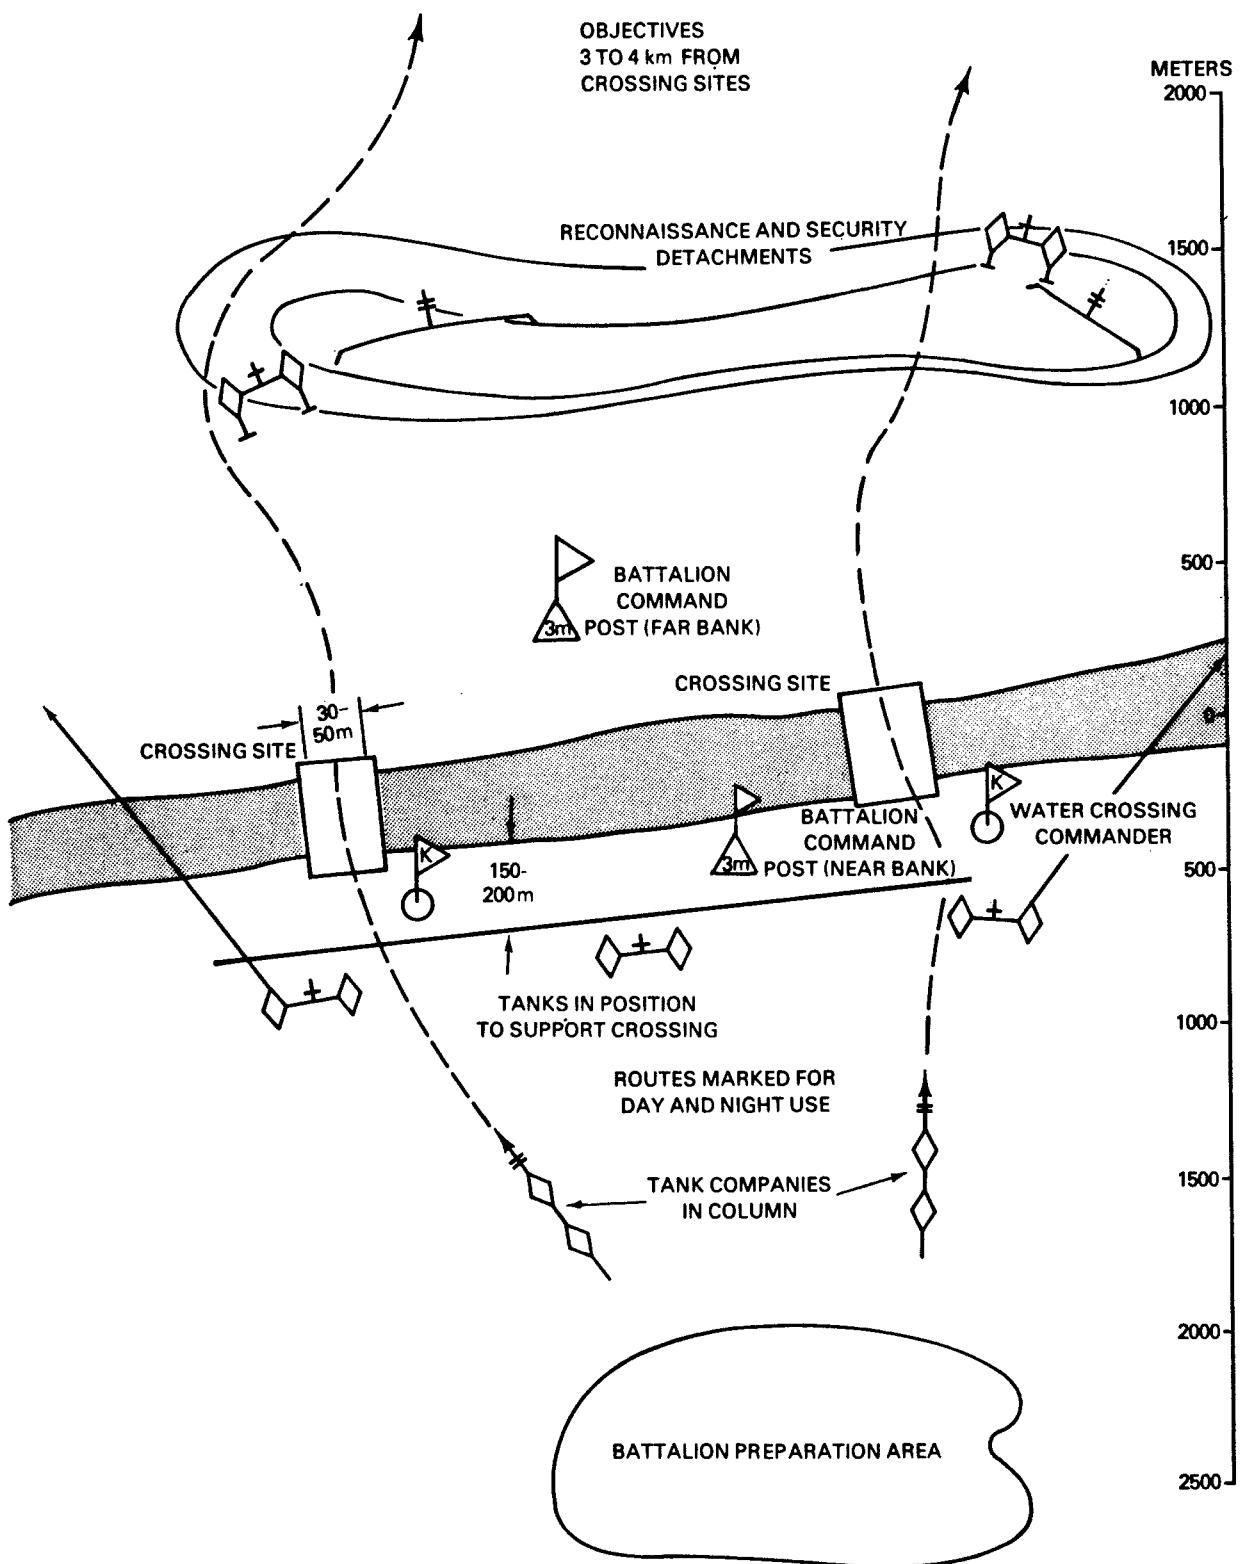

Figure 17. River Crossing Control Organization.
b. The battalion commander normally receives radio orders which designate the crossing area. The battalion headquarters controls the crossing as shown in Figure 17. A regulation station is established near the crossing sites. Each fording site is controlled by a crossing commander who will normally be from the attached engineer unit. A command post is set up on both banks to control forward companies crossing the obstacle. This will be under direction of the battalion deputy commander for technical matters. Routes to crossing sites will be marked. The repair and recovery group, battalion aid station, and rear service elements cross after the tank companies.